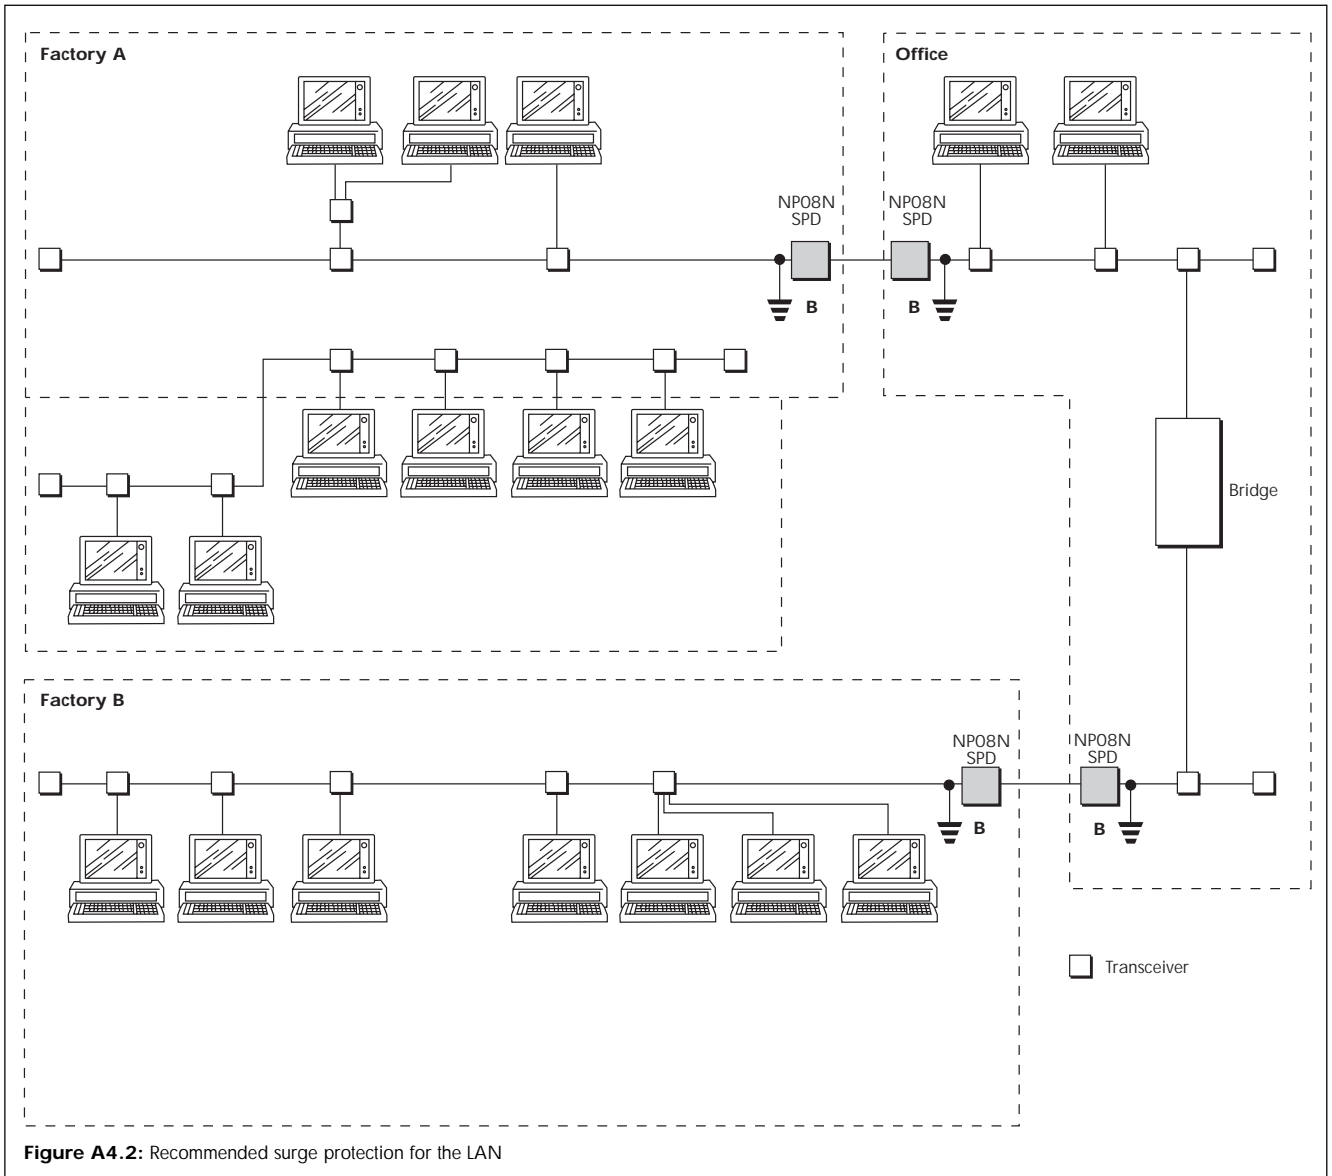

Figure A4.2: Recommended surge protection for the LAN
In case (1) network surge protection devices (SPDs) type NPO8/N should be installed at positions B in figure A4.2, close to the mains distribution board, and earthed there using as short a length of cable as possible, diameter 2.5mm² or greater (short length is much more important than larger diameter). To reduce the effect of cable inductance, several cables can be run electrically in parallel, but spaced apart physically. If earthed metal panels are available at the distribution board, these would offer further reduction in inductance, and better protection.